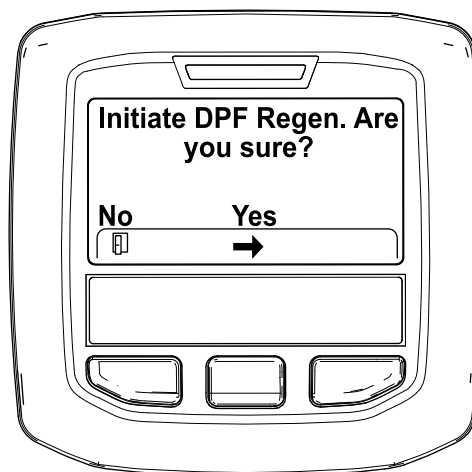

Figure 35
4. When the “Initiate DPF Regen. Are you sure?” message displays, press the center button (Figure 35).